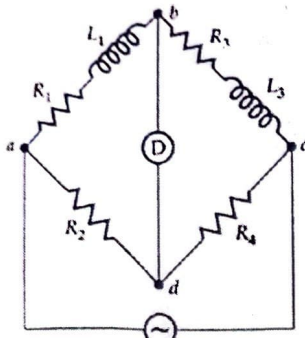

Fig 1
05. An inductance of 0.34 H and 30 Ohms resistance is measured by comparison with a fixed standard inductance of 0.1 H and 60 Ohms resistance. They are connected as shown in Fig 1. The unknown inductance is in arm ab and the standard inductance in arm bc, a resistance of 950 Ohms is connected in arm cd and a resistance whose amount is not known is in arm da.